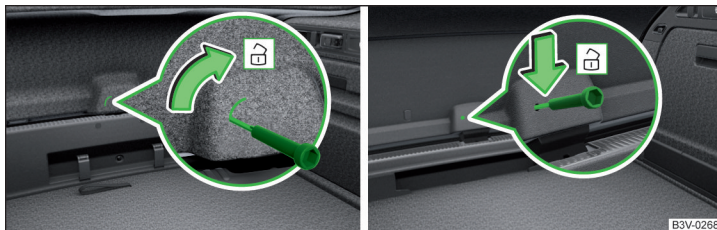

Fig. 249 Unlock flap: variant 1/2
- Insert a screwdriver or similar tool into the recess or the opening in the trim » Fig. 249 as far as the stop.